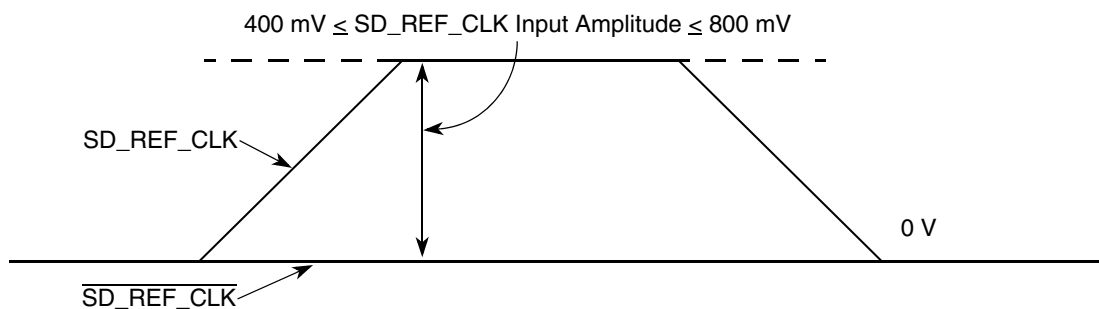

Figure 42. Single-Ended Reference Clock Input DC Requirements
- The `SD_REF_CLK` input average voltage must be between 200 and 400 mV. Figure 42 shows the SerDes reference clock input requirement for single-ended signaling mode.